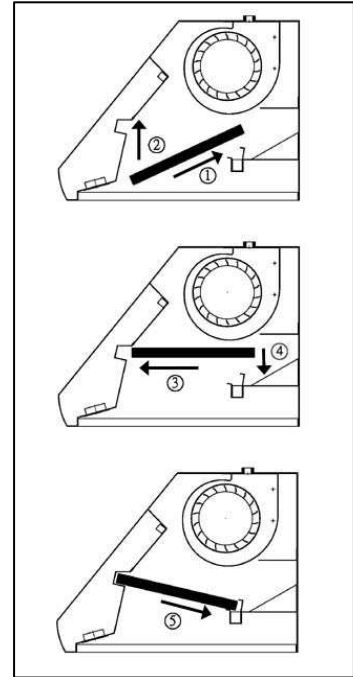

Figure 8
10. Angle baffle filter toward back of hood ①. Refer to Figure 8.
11. Push baffle filter up until almost level ②.
12. Slide forward into recess at front of hood ③.
13. Lower baffle filter ④ and slide back until it fits into resting position ⑤.
8. Angle baffle filter toward back of hood ①. Refer to Figure 8.
9. Push baffle filter up until almost level ②.
10. Slide forward into recess at front of hood ③.
11. Lower baffle filter ④ and slide back until it fits into resting position ⑤.